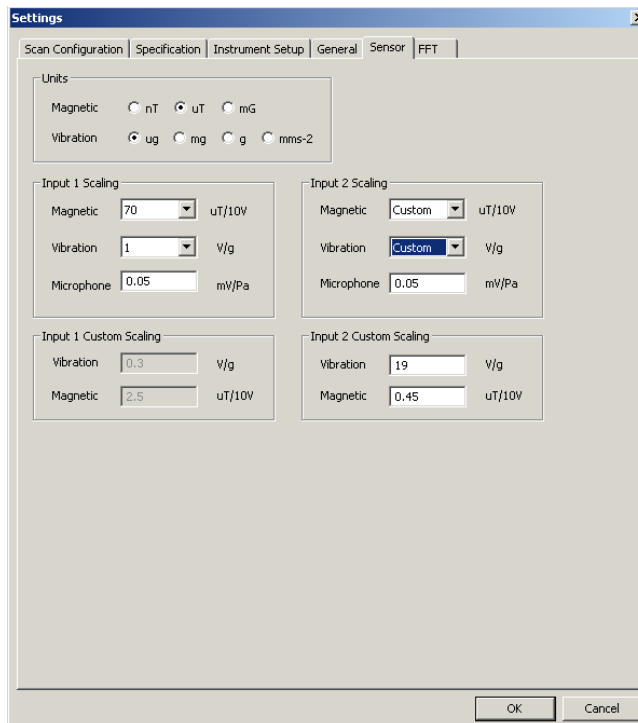

Figure 14e. Process of data acquisition.
(6) In the **FFT** sub-section (**Figure 14e**) are various windows that can be applied to a data before being Fourier Transformed. Select a suitable window. (See FFT Windows and Appendix B for further information.)